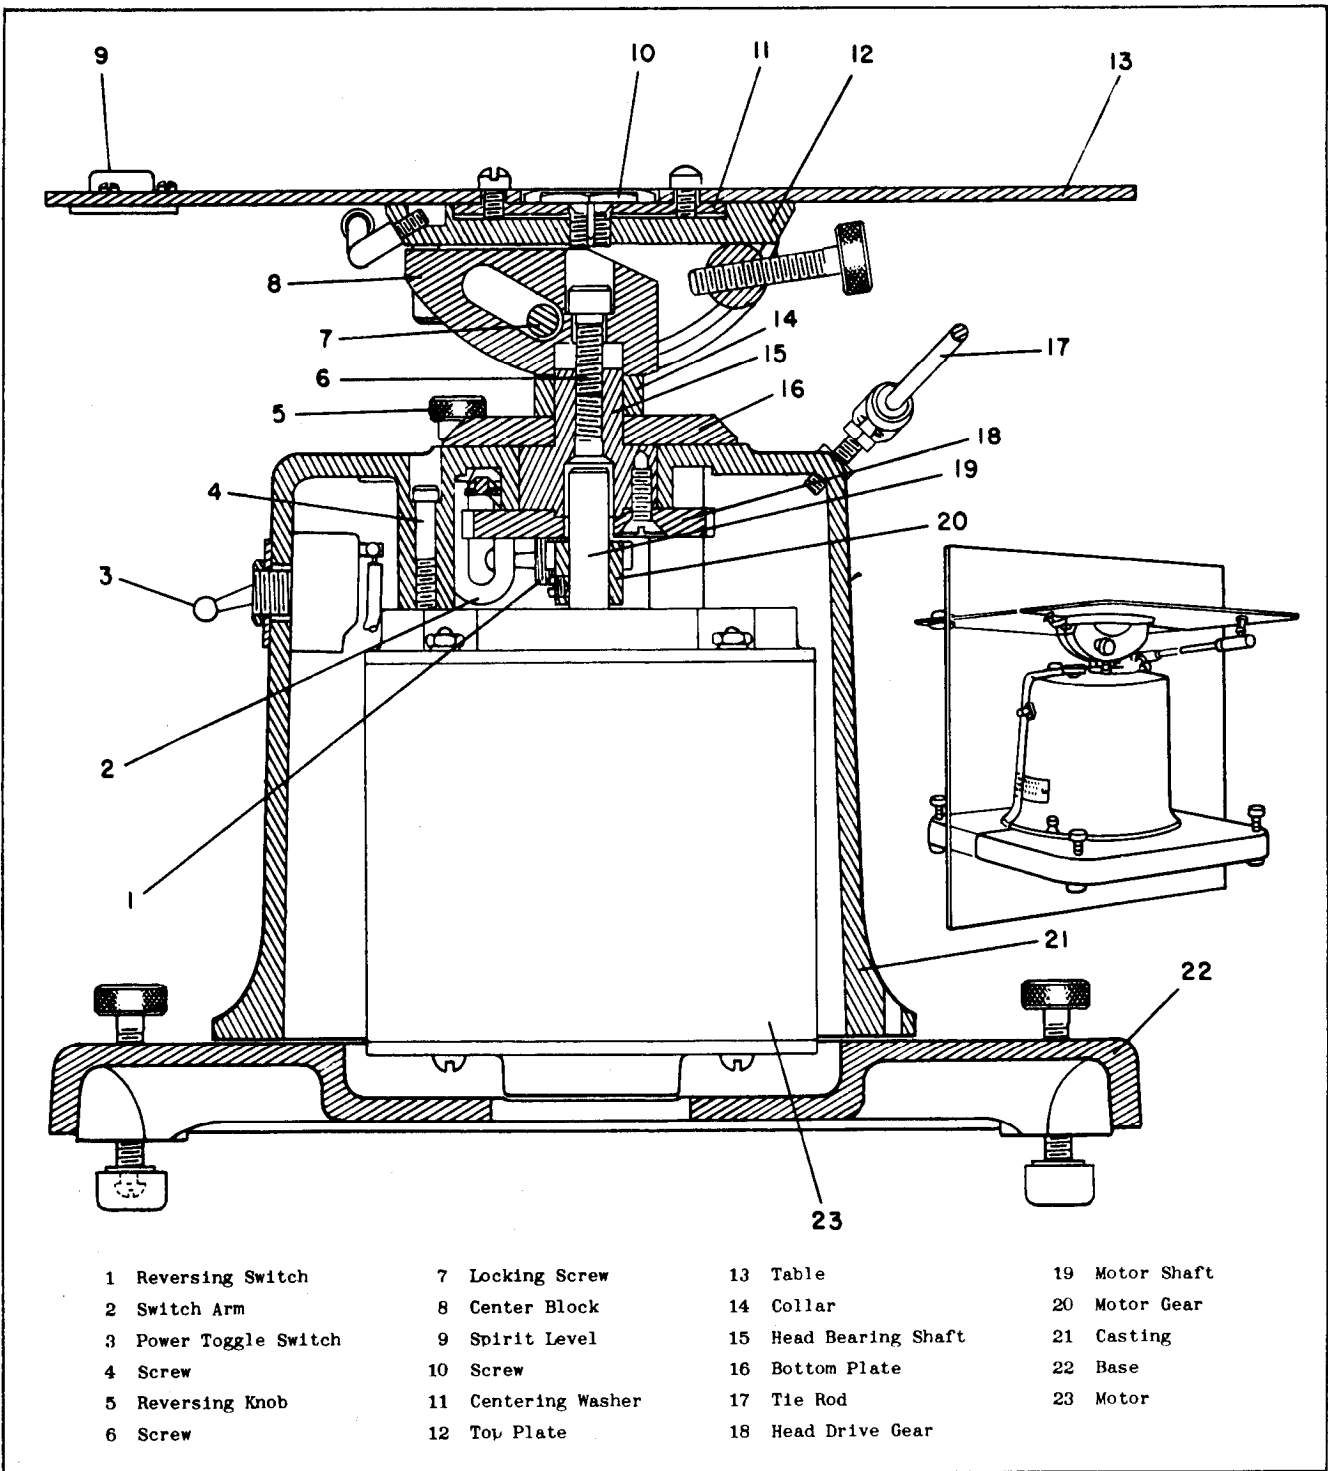
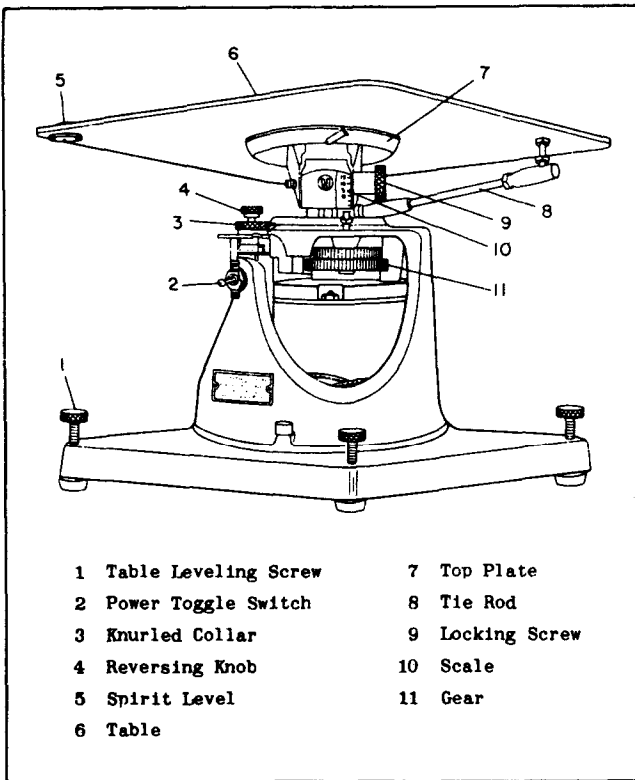
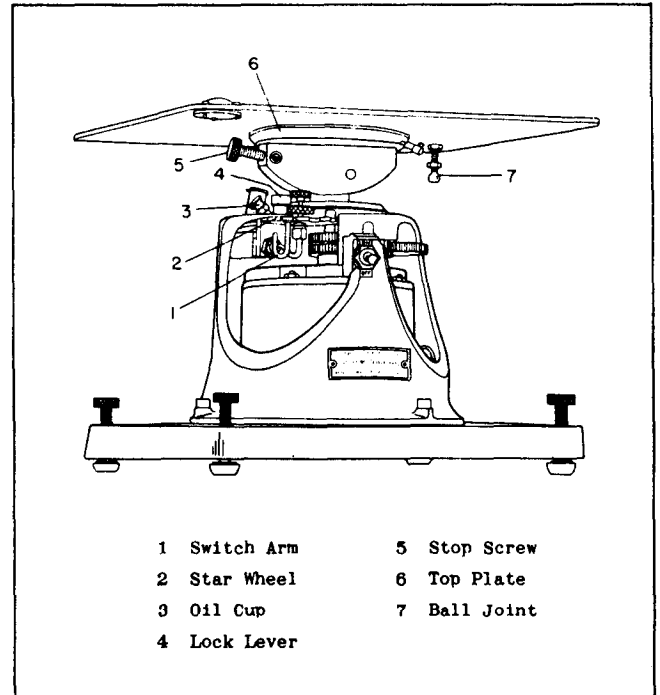

Figure 1-2. Sectional View - Table Scorsby
Figure 1-3. Sectional View - Table Scorsby (Right Side)
Figure 1-4. Sectional View - Table Scorsby (Left Side)
c. To apply oil to the shaft of the reversing switch (1, fig. 1-2) and to the ball joints (not shown), dip a piece of wire into the oil to collect a small drop at the end. Transfer the oil to the part by touching the wire to the part.
d. To apply grease to the gears (11, fig. 1-3), remove the half-inch hole-closing cap (not shown) on the right top of the casting (21, fig. 1-2) to expose the gears (11, fig. 1-3). Dip the end of a piece of wire into the grease and transfer the grease to the gears by touching the wire to the teeth of the gears. Rotate the gears while applying the grease.
Gears (11, fig. 1-3)-----
b. Disassemble the motor (23, fig. 1-2) until the bearings are accessible,
of the headplate, gears, table retaining screw (10, fig. 1-2), and the star wheel (2, fig. 1-4) with a brush dipped in cleaning compound.
f. Apply a thin coat of grease (GL), to the table bearing surface (not shown) on the headplate, and to the head of the table retaining screw (10, fig. 1-2). Replace the table (par. 6-10).
1-9. The motor gear (20, figure 1-2), attached to the motor shaft (19), drives the head drive gear (18) through a series of intermediate gears. The head drive gear is screwed to the bottom of the head bearing shaft (15).
1-13. **TABLE TILT.** The top surface of the center block (8, figure 1-2) is not completely horizontal. The rear section of this part slants down at a 15-degree angle. Since the center block has a slot rather than a hole for the locking screw (7), the top (12) and side plates, and therefore the table (13), can be tilted to any angle up to the 15-degree limit set by the sloping side of the center block. To tilt the table, loosen the locking screw and press on the edge of the table at the stop-screw end.
1-15. **SCORSBY MOTION.** To obtain Scorsby motion the table (6, figure 1-3) must be prevented from rotating. By attaching the table tie rod (8) to the ball joint (7, figure 1-4) the table is held to the stationary case. Thus, if the motor is running, the top plate (7, figure 1-3) will rotate but the table (6) will be prevented from turning. If the table is tilted, Scorsby motion results.
1-160 **TURNTABLE MOTION.** To obtain turntable motion remove the tie rod (8, figure 1-3) at the ball joint (7, figure 1-4). If the motor is running, the top plate will rotate, carrying the table with it.
1-18. The Table Scorsby incorporates a feature which allows for either automatic or manual reversing of the table. With the reversing knob (4, figure 1-3) in the upper position, the table will automatically reverse every six cycles (approximately every minute). Manual reversal of the table is accomplished by turning the reversing knob when it is in the lower position.
1-19. The reversing knob (4) is held in either the upper or lower position by a ball and spring device. In the upper position of the reversing knob, the switch arm (1, figure 1-4), which is attached to the shaft of this knob, meshes with the star wheel (2). The star wheel is rigidly attached to the knurled collar (3, figure 1-3). The star wheel is driven by a series of gears to the motor shaft. Since the switch arm operates the reversing switch, lifting the knob to the upper position allows the motor to actuate the reversing switch (1, figure 1-2), thus achieving automatic reversal of the table.
1-20. When the reversing knob (4, figure 1-3) is in the lower position, it does not mesh with the star wheel (2, figure 1-4). Thus, the switch arm (1) is disconnected from the motor shaft (19, figure 1-2) and automatic reversing cannot occur. By manually turning the reversing knob, however, the switch arm will operate the reversing switch.
1-25. DEVELOPMENT OF SCORSBY MOTION. The Table Scorsby will produce Scorsby motion when the tie rod (9, figure 1-3) is connected to the table (6) and the table is tilted. As the motor rotates, its motion is transmitted through the linkage to the top plate (12, figure 1-2) which also turns. However, since the table tie rod is linked to the table by a tie rod terminating in ball joints (7, figure 1-4), rotation of the tilted
top plate (12, figure 1-2) under the table results in nutation of the table.
4-2. Set the table of the Table Scorsby T-100925 in the horizontal position. Adjust the four screws (1, figure 1-3) to level the Table Scorsby, as indicated by the spirit level.
4-9. A power toggle switch (2, figure 1-3) is provided for starting and stopping the motor of the Table Scorsby.
4-11. **TIEROD.** The tie rod (8, figure 1-3) when connected to the ball joint (7, figure 1-4) prevents the table (6, figure 1-3) from turning. If the table is tilted and the motor is running, Scorsby motion will result.
4-12. **TABLE LEVELING SCREWS AND SPIRIT LEVEL.** The four table leveling screws (1, figure 1-3) are provided to enable the Table Scorsby to be leveled, as indicated on the spirit level (5).
4-13. **POWER TOGGLE SWITCH.** The power toggle switch (2, figure 1-3) is provided to control the application of
4-14. **REVERSING KNOB.** The reversing knob (4, figure 1-3) is provided to allow either the automatic or manual reversing features of the Table Scorsby to be utilized. By loosening the knurled collar (3) and lifting up the reversing knob, the Table Scorsby can be set to reverse automatically every six cycles (approximately once a minute). The direction of rotation of the table may be reversed at any time by moving the knob to the lower position, and then turning it.
4-15. **TABLE TILT AND STOP SCREW.** By pushing on the edge of the table at the stop screw (5, figure 1-4) end, the Table Scorsby may be tilted to any angle up to 15 degrees. The scale (10, figure 1-3) on the center block is provided to indicate the angle of tilt. By setting the table to the desired angle and then turning the stop screw in, the table, if leveled, may then be returned to the angle set by the stop screw.
4-16. **LOCKINGSCREW.** The locking screw (9, figure 1-3) is provided so that when it is tightened it will hold the table (6) in the position to which it is tilted. By exerting a force of eight pounds on the edge of the table, however, the hold of the locking screw may be overpowered.
4-17. **FRICTION LOCK.** The friction lock feature is utilized to lock the head to the casting. To operate the friction lock, press out and back on the lock lever (4, figure 1-4).
4-25. Displace the Table Scorsby 7-1/2 degrees from the horizontal by pressing on the edge of the table (6, figure 1-3). Be sure the stop screw (5, figure 1-4) is unscrewed sufficiently to permit the desired tilt. Connect the tie rod (8, figure 1-3) to the ball joint (7, figure 1-4).
4-26. Start the Table Scorsby by moving the power toggle switch (2, figure 1-3) to the "ON" position. Place switch of the Analyzer in the "FAST" position. Allow the gyro to settle, that is, the maximum voltage on the vtvm reached on each oscillation of the Table Scorsby should be the same.
a. Tilt the table. Operate the motor unit until the scale on the center block (8, figure 1-2) is towards the front. Test the table to see that it can be tilted and held in position by the locking screw (9, figure 1-3).
b. Check that the stop screw (5, figure 1-4) can be turned in and out.
c. Check that the automatic reversing knob (4, figure 1-3) can be raised and lowered. The knurled collar (3), under the reversing knob, can be rotated to allow the reversing knob to be raised and lowered.
d. Lifting the reversing knob (4, figure 1-3) to the upper position should automatically reverse the table. Putting the reversing knob in the lower position should make the table run in only one direction. Change the direction of rotation by manually rotating the reversing knob in either direction.